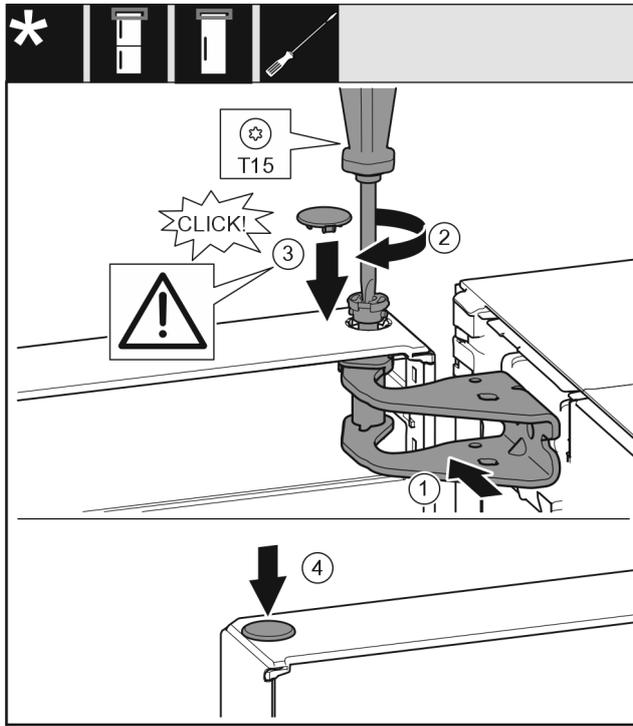

Fig. 24
- ▶ Align the top door with the opening in the swap bearing block Fig. 24 (1).
- ▶ Insert the bolt Fig. 24 (2) and use screwdriver to tighten it.
- ▶ Insert the cover Fig. 24 (3).
- ▶ Check that the cover Fig. 24 (3) is resting on the door.
- ▶ Insert the cover Fig. 24 (4).